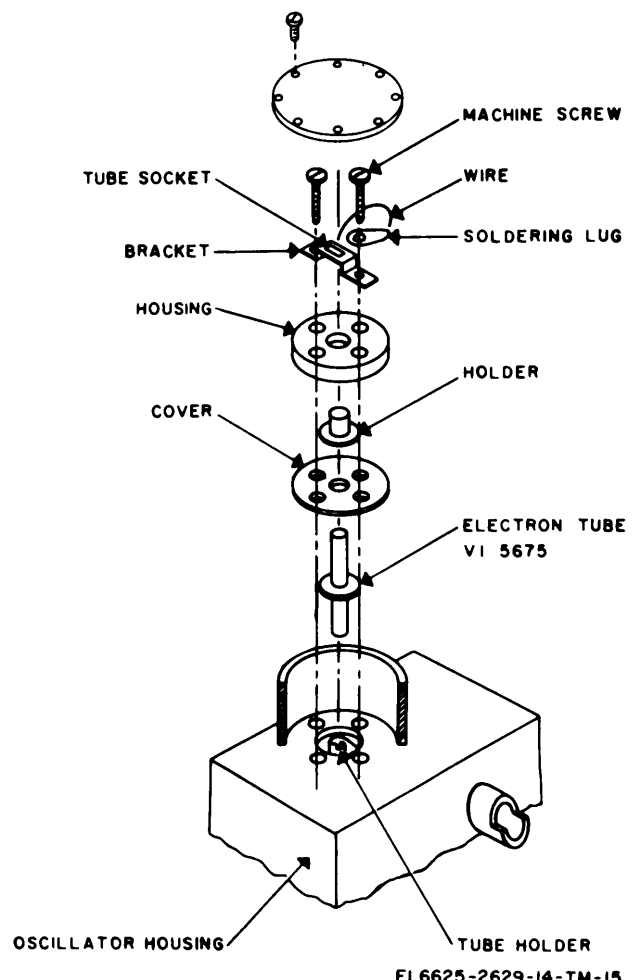

Figure 7-6. Disassembly diagram for replacement of tube V1.
(3) Place the coupling (39) over the tuning capacitor shaft.
(4) Tighten the setscrews (38) on the shaft.
(5) Tighten the screws that hold the tuning capacitor (31) to the bracket (30). Be sure that the shaft rotates freely.
(6) Replace resistors R7 (60) and R8 (61) to the capacitor contact assembly (28) an plateholder assembly (17) contacts.
(7) Replace V1.
(8) Replace the rotor shaft (9) in its original position.
(9) Push the rotor shaft (9) into position.
(10) Tighten the detent arm (5) by tightening the screw (3) attached to the detent bracket (4).
(11) Replace the retaining ring (10) in the groove in the rotor shaft (9).
(12) With the rotor in position, tighten the setscrew (24) on the rotor hub.
c. Replacement of Electron Tube VI (fig. 7-6).
(1) Remove 8 screws with lockwashers holding the lid, then remove the lid that covers the tube enclosure.
(2) Remove the two machine screws that hold the tube socket bracket assembly.
(3) Lift off the tube socket bracket assembly.
(4) Remove the two remaining screw.
(5) Lift off the housing, the holder, and the cover.
(6) Pull the tube straight up to remove it from the plate contact.
(7) Insert new tube into the plate contact.
(8) Be sure that the grid makes contact with the grid contact mounting of the tuning capacitor.
(9) Replace the cover, holder, and housing.
(10) Replace the two screws that do not hold the bracket.